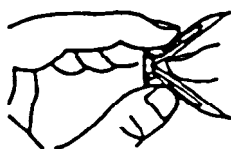

Figure 7- Folding Anchor
2. Fold wall anchor as shown in Figure 7 below.